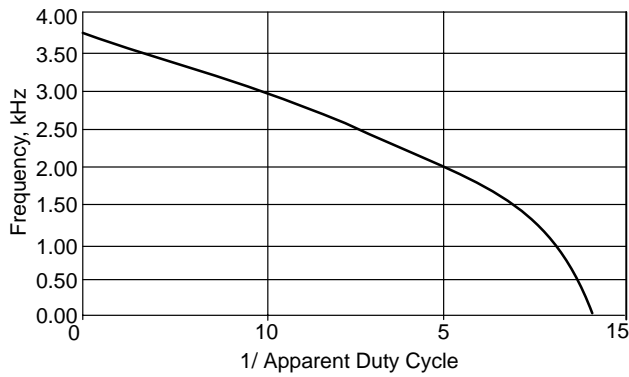

Figure 13. Normalized Input Filter Capacitor Ripple Current
12. Calculate Input Filter Capacitor Ripple Current. Use the chart in Figure 13 to calculate the normalized ripple current (K_{RMS}) based on the reciprocal of Apparent Duty Cycle. Then multiply the input current by K_{RMS} to obtain the Input Filter Capacitor Ripple Current.